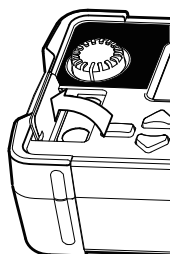

Fig. 14-1
- (1) Ensure that the special application "KEW Report" has been installed in your PC.
- (2) Disconnect the test leads from the instrument.
- (3) Connect MODEL8212 USB to the USB port of the PC.
- (4) Open the cover for optical adapter and connect MODEL8212USB. Please see Fig. 14-1 and 14-2 shown below.
- (5) Power on the instrument. You can set the function switch to any position.
- (6) Start "KEW Report" on your PC and click "Download" to start data download. For further detail, please refer to the instruction manual for MODEL8212 USB or HELP for KEW Report.